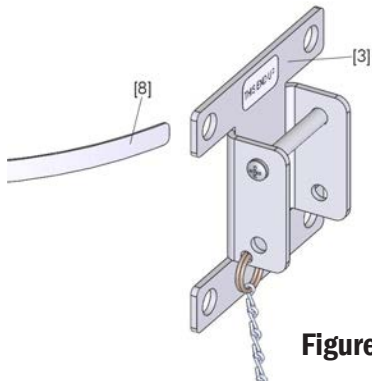

Figure 26
1. Remove hardware from packaging (see Figure 26).
2. Thread clamp [8] through the holes on the mounting bracket plate [3] (see Figure 26, 27).